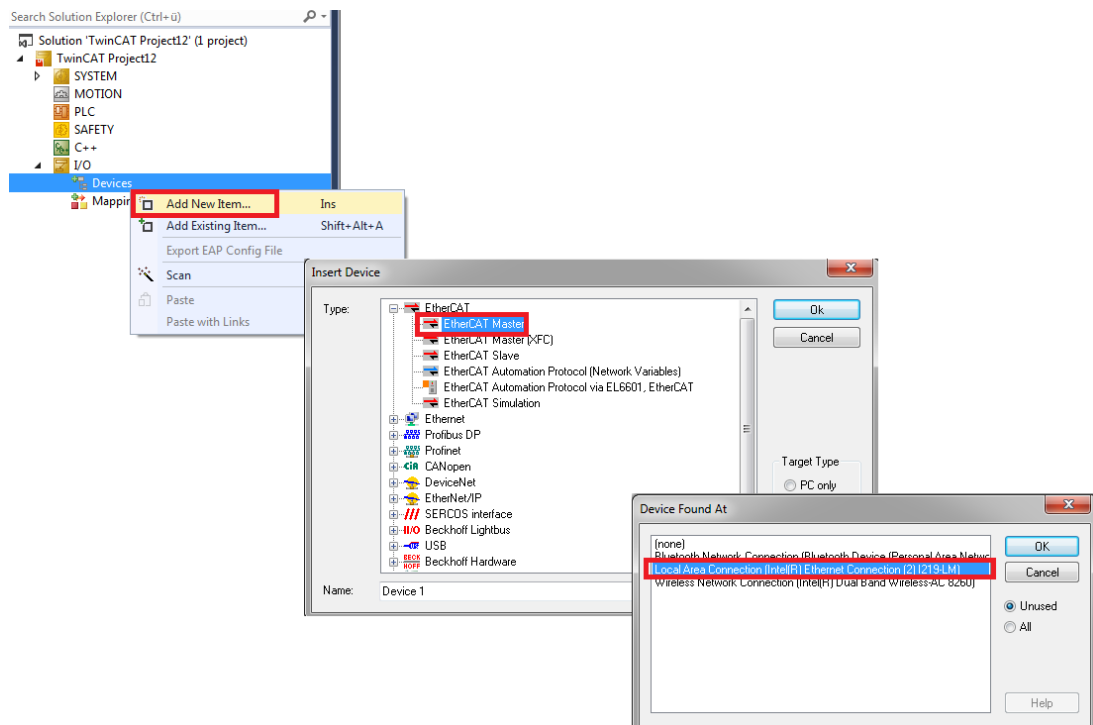

Figure 4: insert the EtherCAT Master device
- a. Click with the right mouse button on I/O → Devices, select “Add New Item...” and choose the “EtherCAT Master” device (Figure 4). In case the TwinCAT Real-Time Ethernet Driver is installed on more than one network card, a “Device Found At” pop-up will allow to select the adapter which will be used as EtherCAT master; otherwise, the only network card on which the driver is installed will be automatically configured as master device.